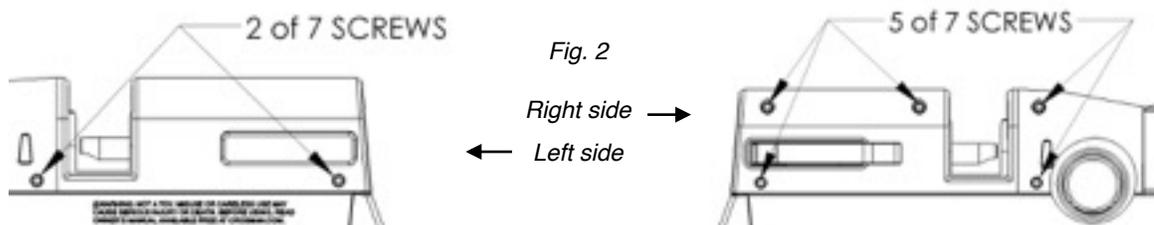

Fig. 2
4. Using a 3/32" Allen wrench, remove the 7 screws (5 on right side, 2 on left) that fasten the right and left Cheek Piece components to the action. (Fig. 2) Remove both Cheek Piece components from the action.